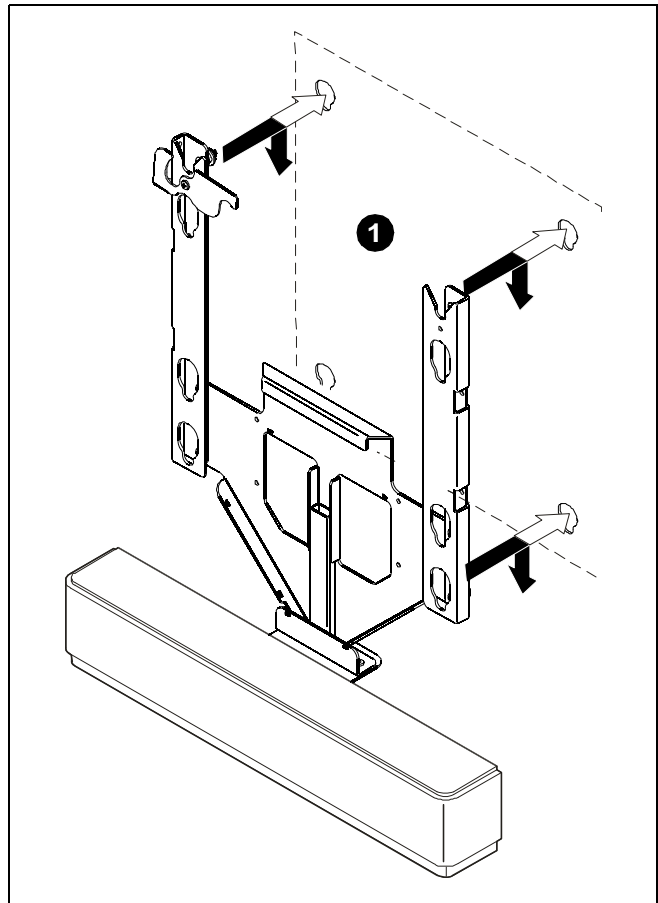

Figure 5
1. Install accessory to mount following the installation instructions provided with the mount. (See Figure 5)